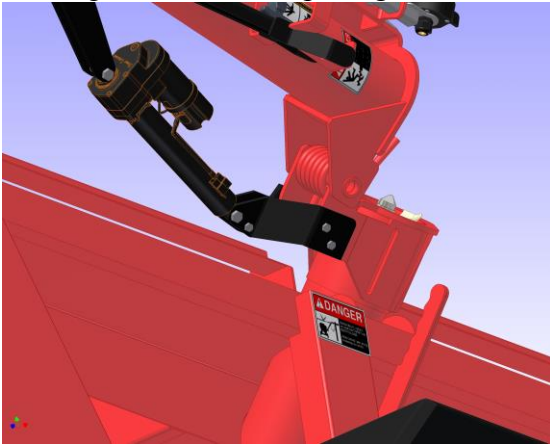
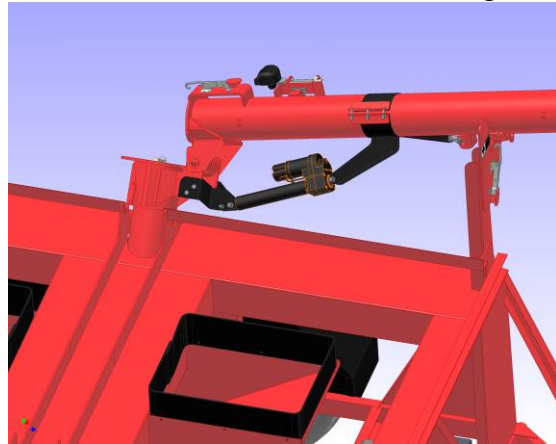
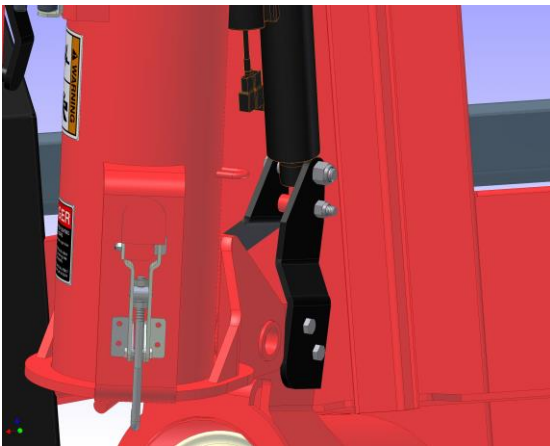

figure 1
figure 2
figure 3
1. Start with the auger folded and latched down in the rest. Mount the bottom actuator ears as shown in figure 1 and figure 2. Be sure to notice the ears are marked as to where they go. The inside ear says “4 BOX IN” and the outside ear says “4 BOX OUT.” Also there is a 1.25” long bushing that holds the spacing of the ears. It mounts with a 3/8” x 2.5” bolt. See figure 3.
2. Mount the upper band clamp around the upper auger as shown in figure 2. The edge of the band clamp should be about 7 9/16” from the end of the upper auger tube. Leave it loose for now.
3. Mount the actuator in the ears as in figure 1 and figure 2. Use the 1/2” bolts and lock nuts. Do not tighten them completely they need to turn freely.